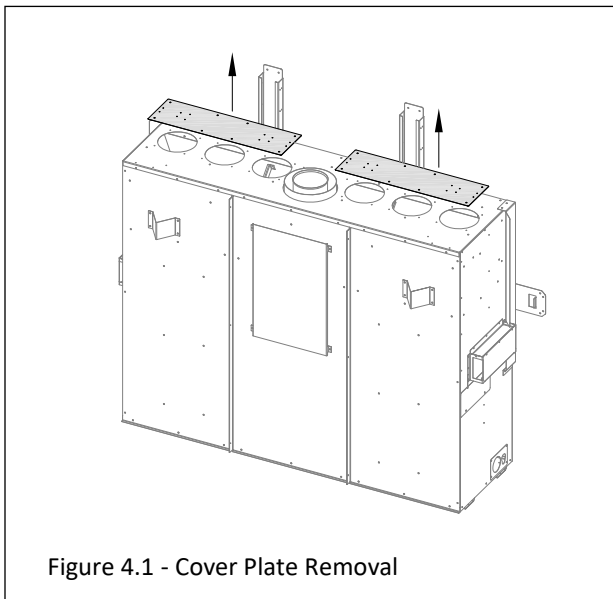

Figure 4.1 - Cover Plate Removal
1. Remove the (16) sheet metal screws that secure the (2) cover plates at the top of the fireplace shown in Figure 4.1. Discard these two cover plates. Save the sheet metal screws for the next step.